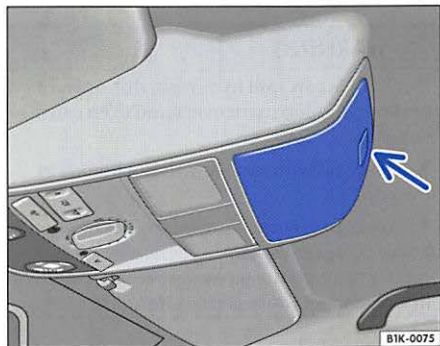

Fig. 57 Sun glasses case in the roof
- Press the release button ⇒fig. 57 to open. The cover opens automatically.